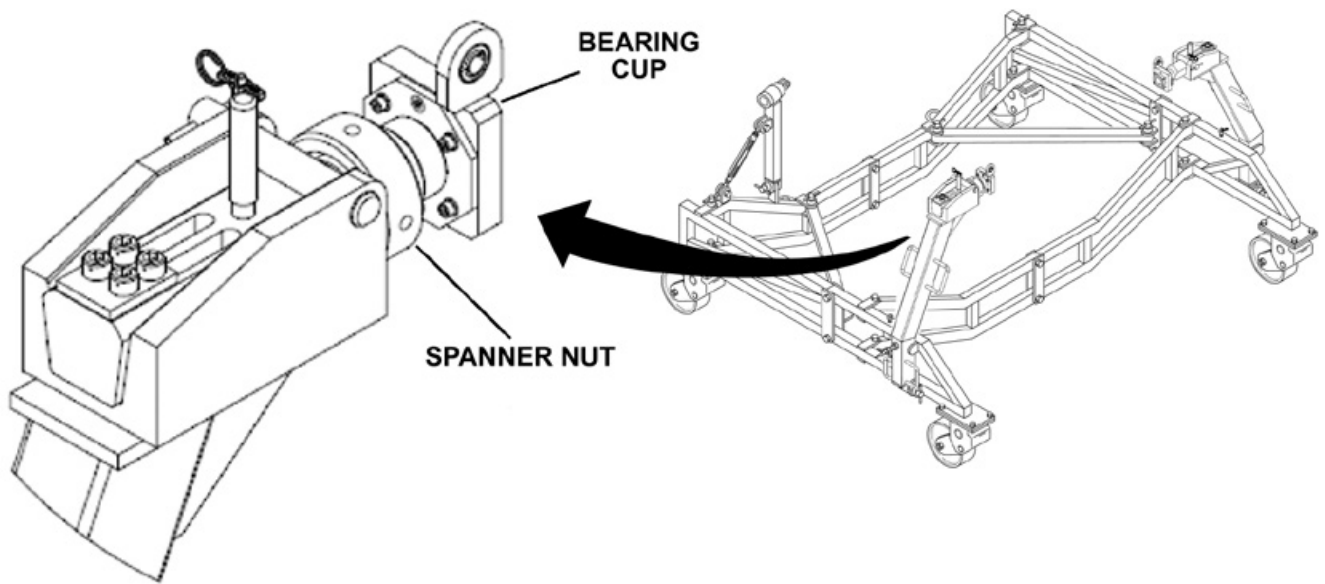

Figure 5.2-2. Spanner Nut Adjustment.
- 7) Adjust spanner nut on forward mount (as shown in Figure 5.2-2) to ensure trunnion is fully engaged into bearing cup.
- 10) Adjust spanner nut on forward mount (as shown in Figure 5.2-2) to ensure trunnion is fully engaged into bearing cup.